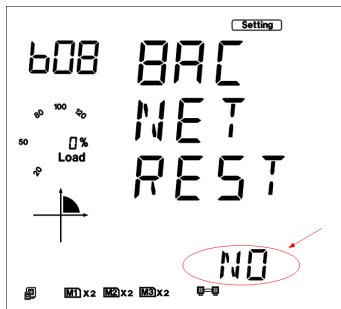

Fig 5-77
c). Set configuration mode in the first setting page. "AUTO" means that users configure module settings with DHCP protocol while "MANU" means that users configure module settings with manual setting. Press "V/A" key, to go to the setting state and the area pointed out in Fig 5-77 will flash. Press "P" key or "E" key to select configuration mode, press "V/A" key to accept. Press the "P" key again to go to the second setting page for IP Address.